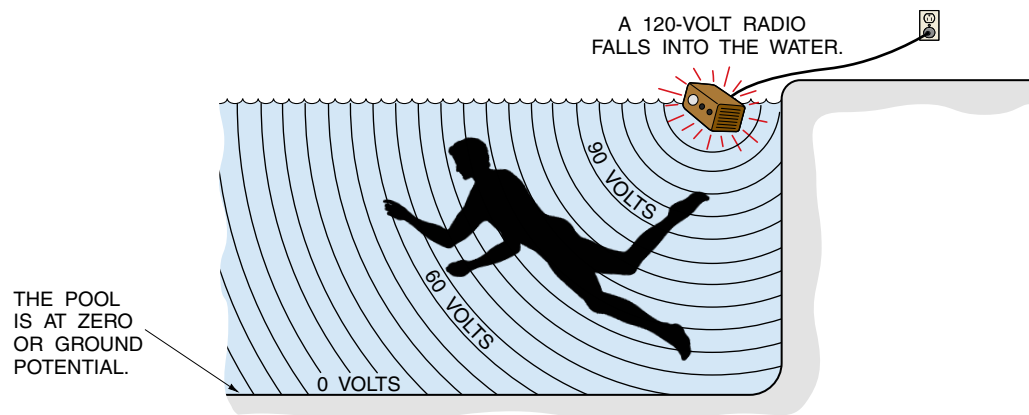

Figure 30-2 Voltage gradients surrounding a person in the pool can cause severe shock, drowning, or electrocution.
2. *Indirect contact:* An electrical shock can be lethal to someone in a pool if the person is merely in the water when voltage gradients in the water are present. This is illustrated in Figure 30-2.
As shown in Figure 30-2, “rings” of voltage radiate outward from the radio to the pool walls and bottom of the pool. These rings can be likened to the rings that form when a rock is thrown into the water. The voltage rings or gradients range from 120 volts at the radio to zero volts at the pool walls and bottom. The pool walls and bottom are assumed to be at ground or zero potential. The gradients, in varying degrees, are found throughout the body of water. Figure 30-2 shows voltage gradients in the pool of 90 volts and 60 volts. This figure is a simplification of the actual situation in which there are many voltage gradients. In this case, the voltage differential, 30 volts, is an extremely hazardous value. The person in the pool immersed in these voltage
reducing the shock hazard. Stray voltage and voltage gradient (see Figure 30-2) problems are kept to a minimum. Proper grounding and bonding also facilitates the opening of the overcurrent protection devices should a fault occur in the circuit(s).